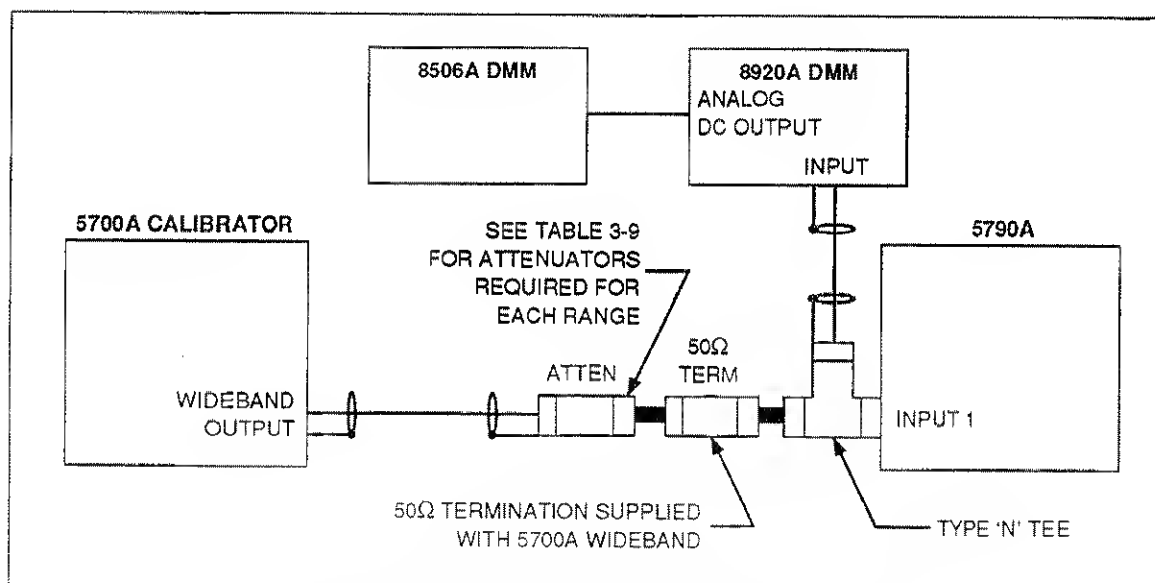

Figure 3-19. Wideband Verification Test Setup, Part 1
1. Connect the equipment as shown in Figure 3-19 with 50-dB of attenuation.
1. Connect the equipment as shown in Figure 3-19 with 60 dB of attenuation.
1. Connect the equipment as shown in Figure 3-19 with 70 dB of attenuation.